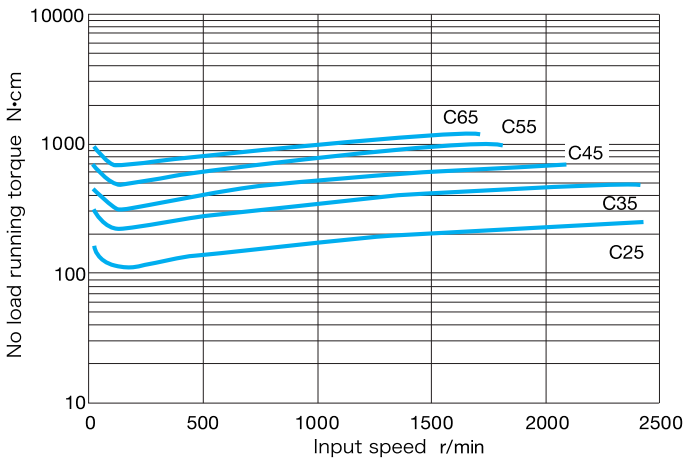

Fig. C-8
- Notes) 1. Fig. C-8 shows average data after reducers have been run.